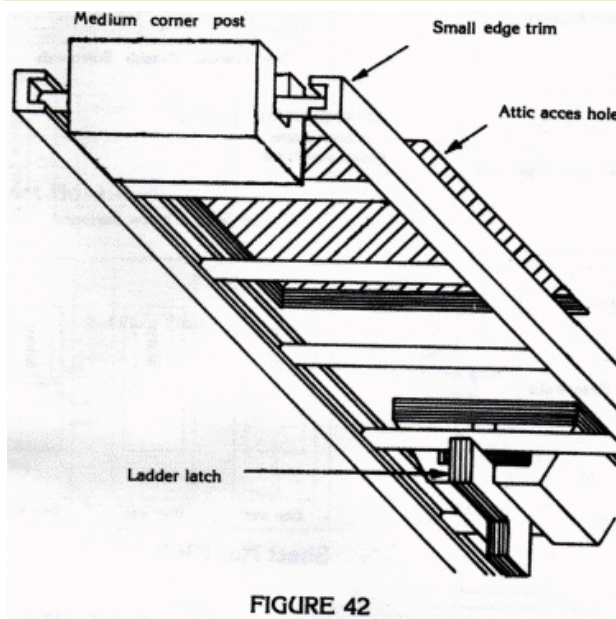

FIGURE 42
4. Glue and tape the ladder in position making sure the ladder has clearance when it swings down. You may need to round the tops of the small edge trim. Glue ladder latch in place. It fits between the dowels. The latch catch hooks under a dowel to hold the ladder up. Figure 42.